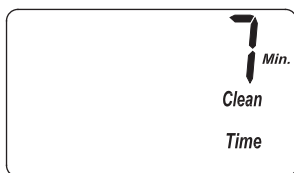

FIG. 28
1. Press and hold the PROGRAM button until the screen in Figure 26 is displayed. Once in this display, press the PROGRAM button three times and the display in Figure 28 is shown.